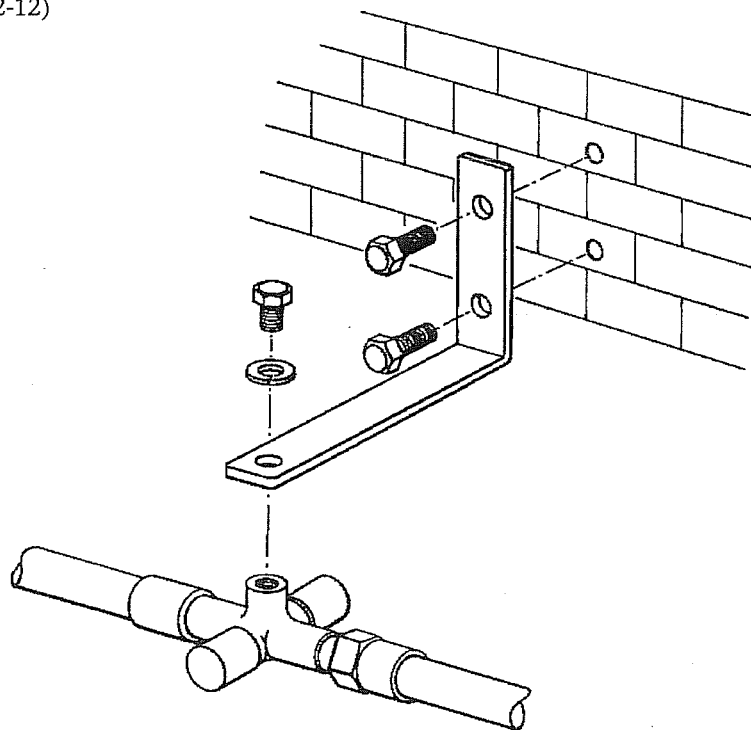

Figure 2-12
For wall-mounted manifolds, screw a mounting bracket to each header extension and then secure the mounting bracket to the wall. (Figure 2-12)
3. Temporarily fasten the mounting bracket to the header extension using a 3/8" X 1/2" long cap-screw and a 3/8" lock washer. (Figure 2-12)
6. Permanently fasten the mounting bracket to the header extension using a 3/8" X 1/2" long cap-screw and a 3/8" lock washer. (Figure 2-12)
7. Fasten the mounting bracket to wall with suitable bolts (not included). (Figure 2-12)